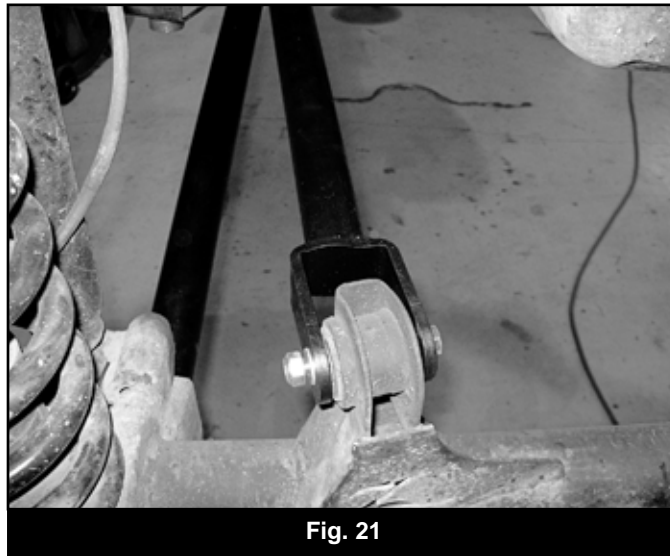

Fig. 21
56. Attach the clevis end of the upper control arms to the front axle mounts (Fig 21). The clevis end will angle in toward the center of the vehicle. Fasten the arms to the axle with 10mm x 80mm bolts, nuts and 3/8" SAE washers (BP 715). Leave hardware loose.